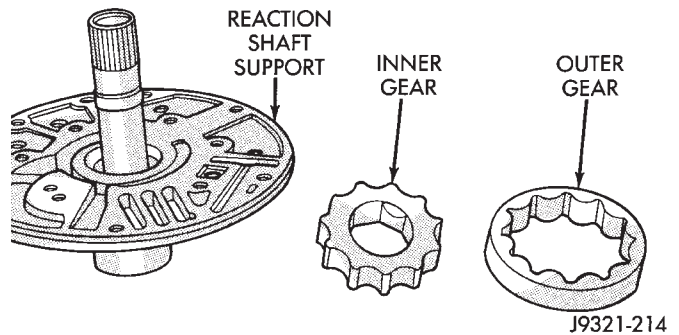
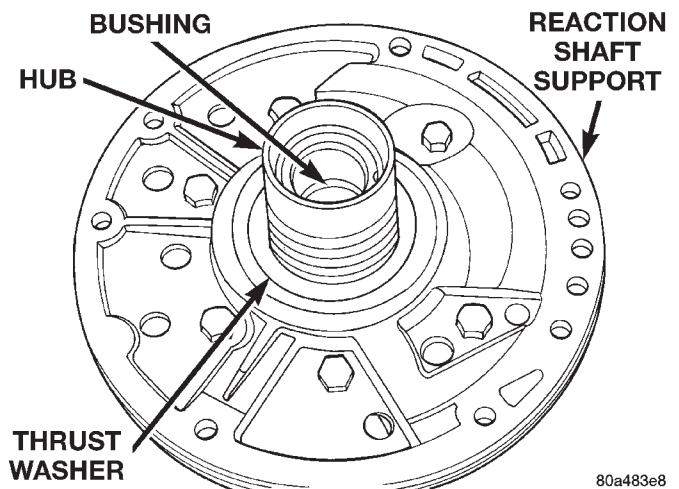

Fig. 124 Pump Gear Removal
Fig. 125 Support Hub Thrust Washer
- (5) Remove inner and outer gears from reaction shaft support (Fig. 124).
- (6) If pump seal was not removed during transmission disassembly, remove seal with punch and hammer.
- (7) Remove front clutch thrust washer from support hub (Fig. 125).